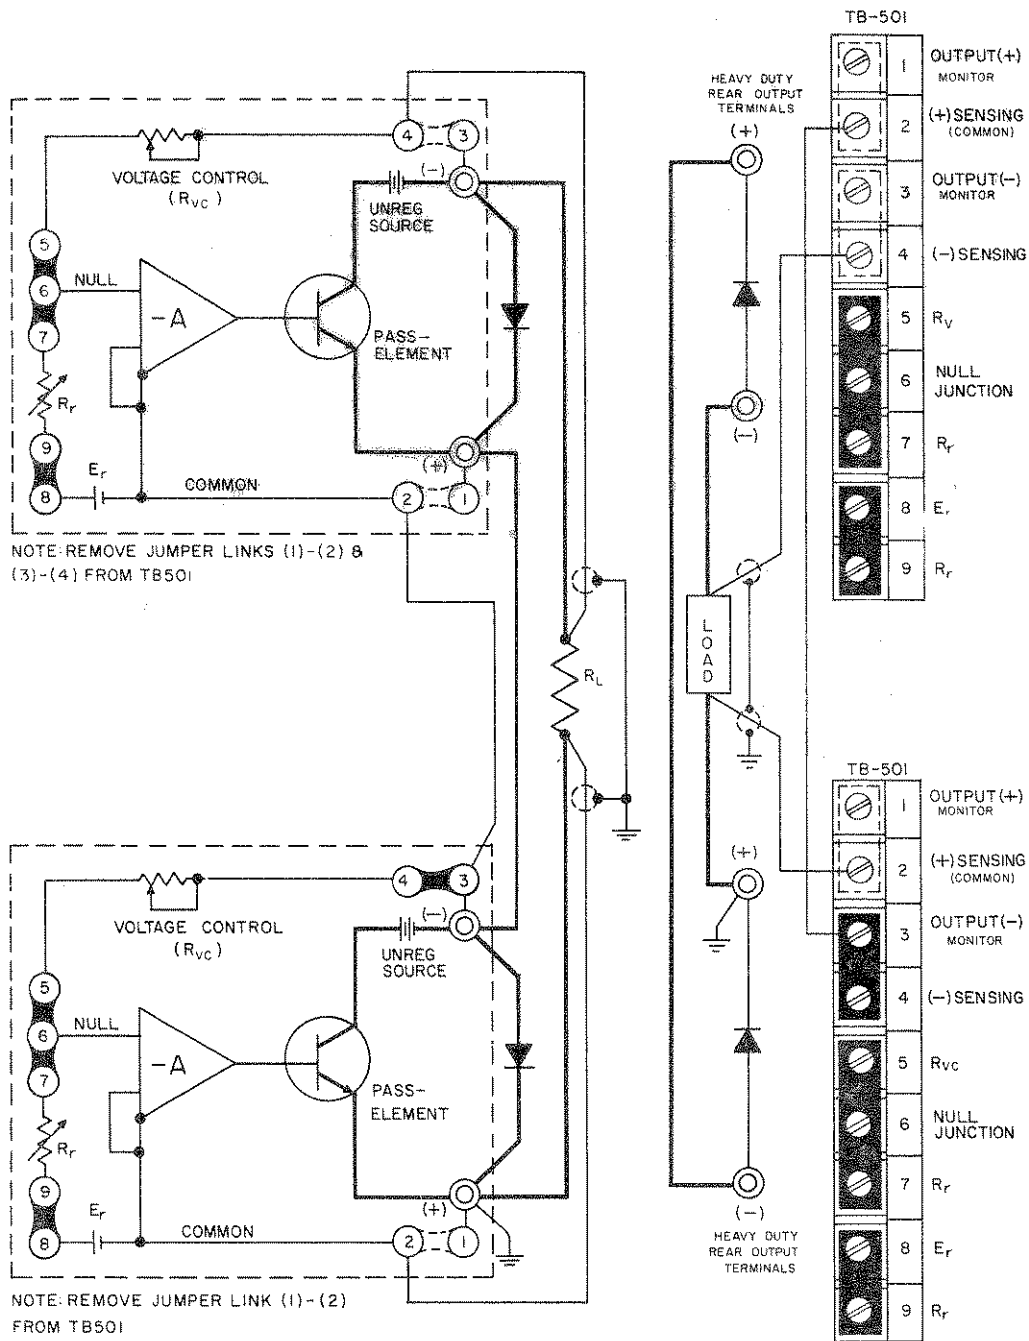
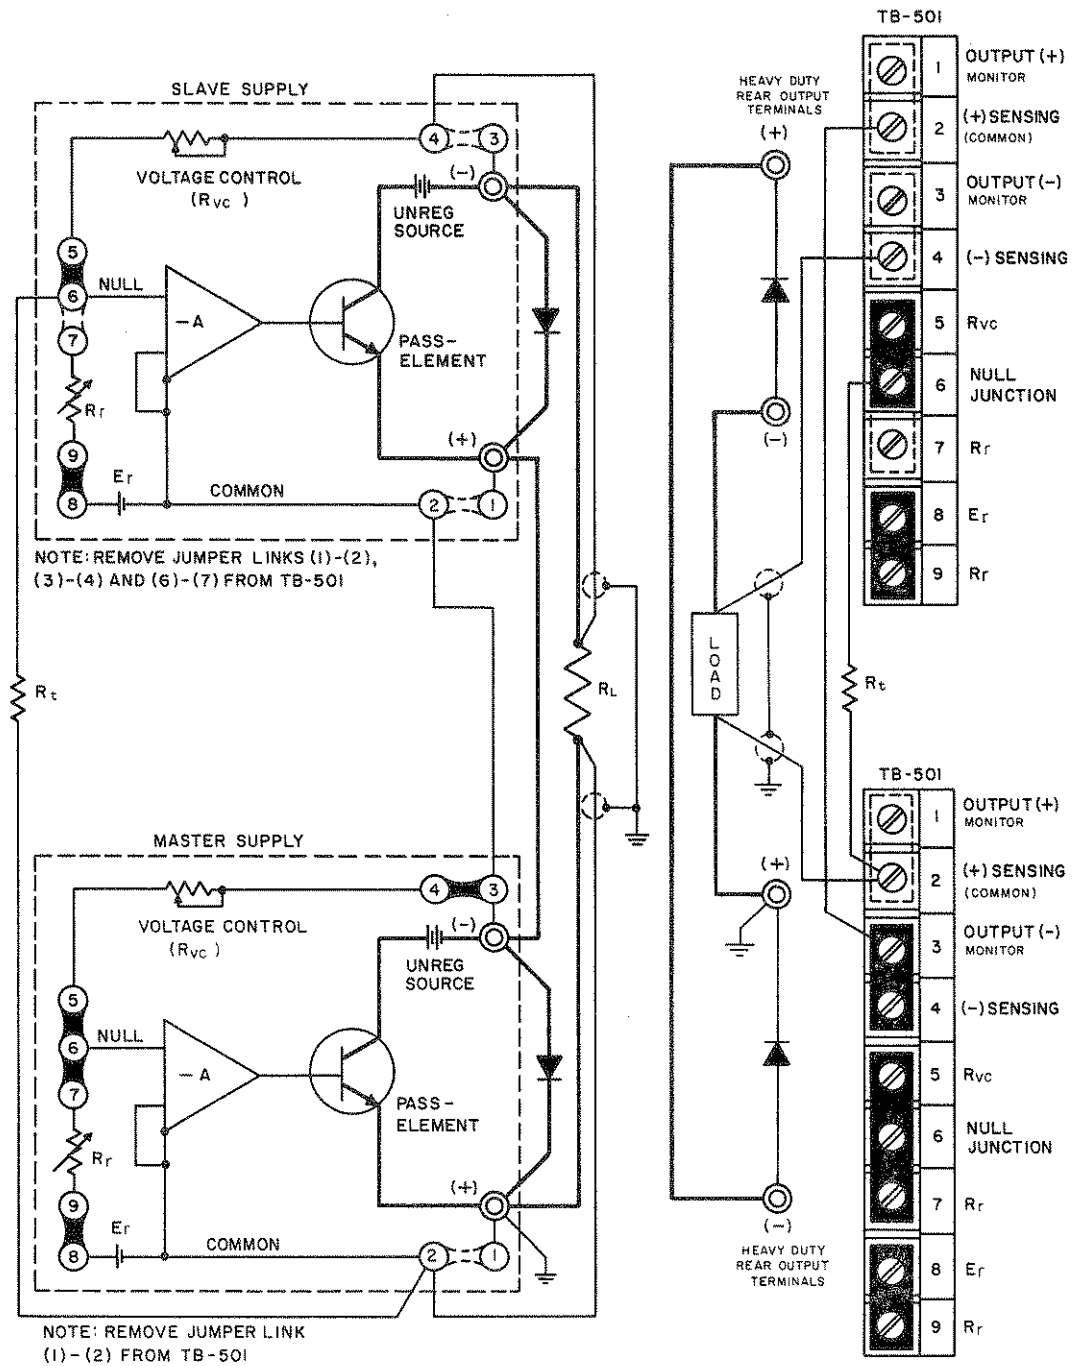

FIG. 3-10 AUTOMATIC SERIES CONNECTION OF KEPKO POWER SUPPLIES
FIG. 3-11 MASTER-SLAVE SERIES CONNECTION OF KEPKO POWER SUPPLIES
3-35 GENERAL. Kepco Power Supplies can be series-connected for increased voltage output, provided the specified limits on voltage to chassis are not exceeded. When series-connected, the supplies should be protected by means of a semiconductor diode across the output terminals of each power supply, as shown in FIG. 3-10. The peak inverse rating of these diodes must be at least as large as the output voltage of the supply to which they are connected. The continuous current rating of the diodes should be at least as great as the largest short-circuit current of the interconnected supplies.
3-36 Two basic series connection methods are generally used, the "Automatic Series Connection", as illustrated in FIG. 3-10, and the "Master-Slave" connection, shown in FIG. 3-11. The basic difference between these two alternate methods lies in the manner of the output control. While in the "Automatic" connection the outputs of both supplies may be controlled individually, in the "Master-Slave" connection, control is exercised from the "Master" supply alone, while the "Slave" supply follows the master command in a ratio which may be pre-determined by the user. The latter method of series operation is therefore frequently termed "Automatic Tracking".
- a) Connect load as shown in FIG. 3-10. Keep voltage drop in load wires as low as practical by using heavy gauge wire.
3-38 The "Master-Slave" series connection method is illustrated in FIG. 3-11. As seen from the figure, the reference voltage (E_r) of the "Slave" supply is disconnected and its input or null junction is connected to the output of the "Master" supply via the tracking resistor (R_t). The "Slave" supply output is thus completely dependent on the "Master" output voltage:
- a) Connect load as shown in FIG. 3-11. Keep voltage drop in the load wires as low as possible by using heavy gage wire.
- c) Remove jumper links as shown (FIG. 3-11) and connect error sensing leads if remote sensing is desired. Sensing leads should be twisted and shielded.
- d) Select value of the tracking resistor (R_t) and connect with shielded wire as shown (FIG. 3-11).